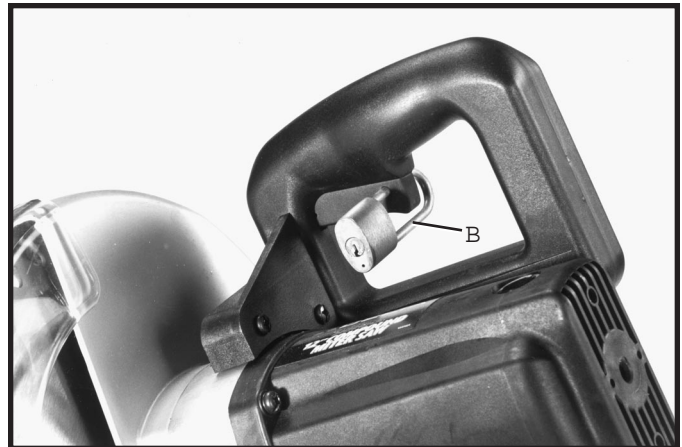

Fig. 16
**IMPORTANT:** We suggest that when the miter saw is not in use, the switch be locked in the OFF position using a padlock (B), as shown in Fig. 16. Available as an accessory from Delta is the 50-325 padlock, shown at (B).